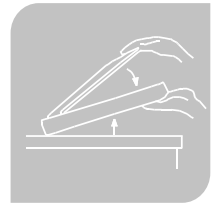

Figure 7
- ▶ After measuring the mercury lever is exactly at the 0 point, then close the Sphygmomanometer. The lower shell ought to be horizontal during closing.(Figure 7 )